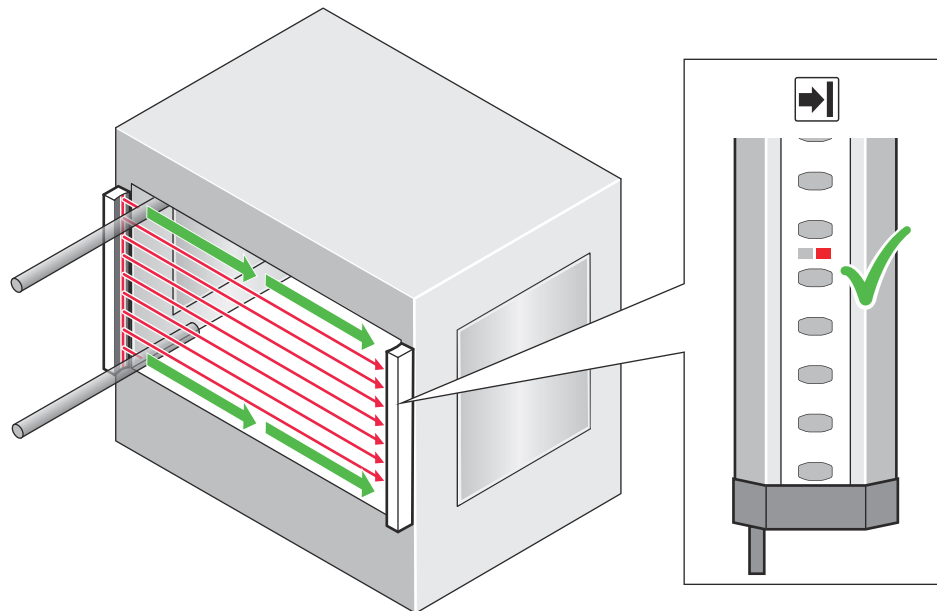

Figure 21: Test rod check: Step 3
3. Then, guide the test rod along the edges of the area to be protected, as indicated by the arrow, see figure 21.